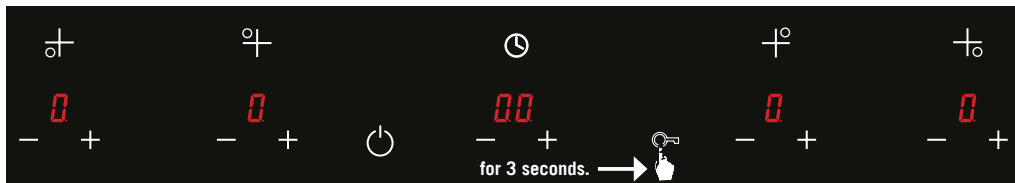

Figure 50
3. To deactivate the child lock function, just press and hold the lock key (🔑) for 3 seconds. (See Fig. 50) The dot (●) beside the lock symbol is turned off after this period and the child lock is deactivated.